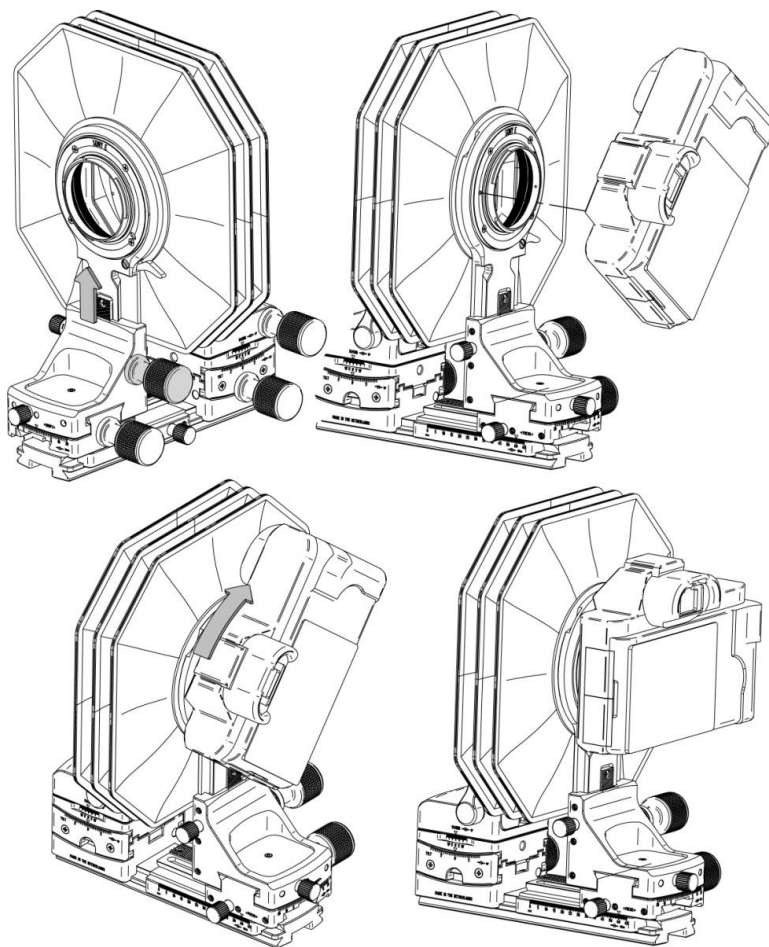

Figure 7: Mounting the camera (clockwise turning camera mount)
1. Tilt and hold lever ([V], figure 7).